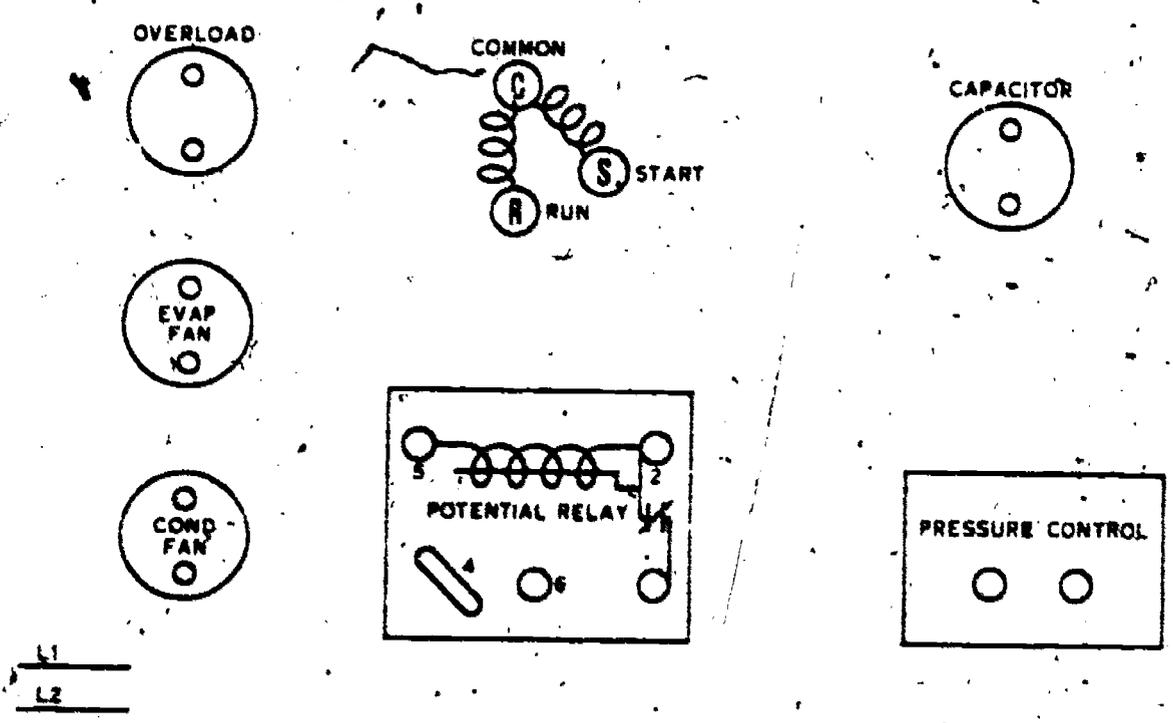

Figure 3. Single-Temperature Evaporator Electrical System
4. Draw lines on figure 3 connecting the components for correct flow through the system.